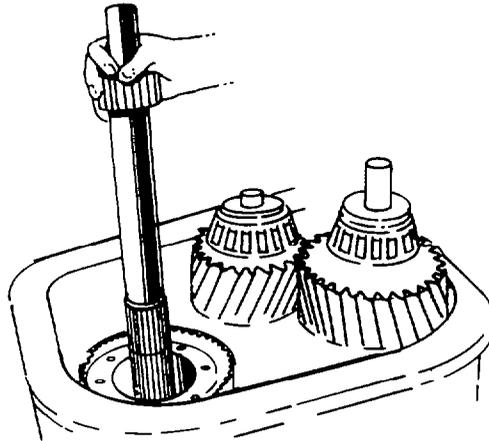

Fig. 231 — Removing Front Drive Shaft
- w. Remove the front drive shaft (see fig. 231).